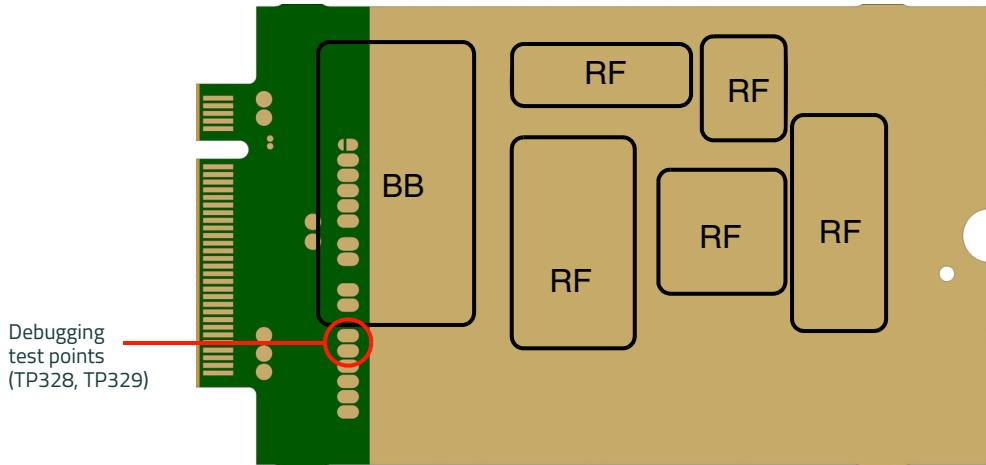
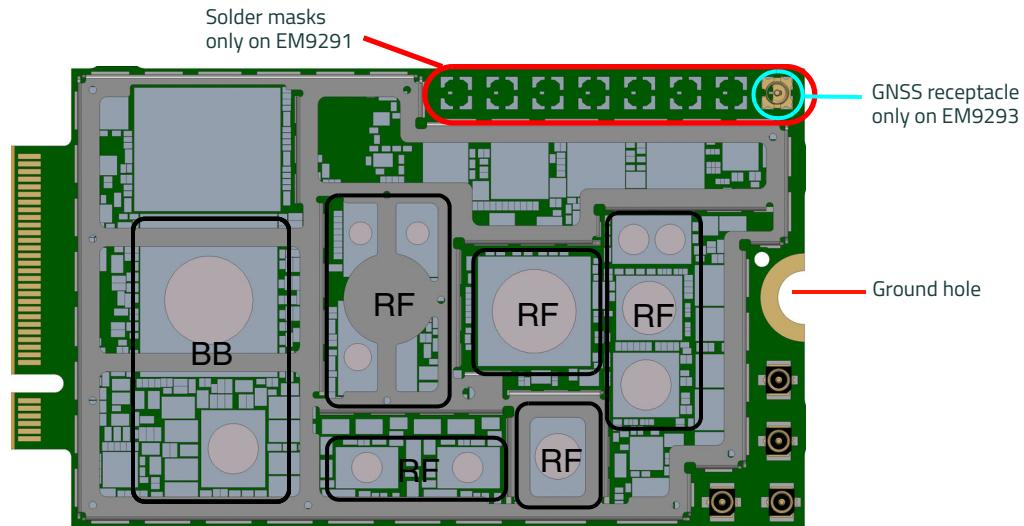

Figure 6-6: Regions requiring thermal dissipation (Bottom view)
Figure 6-7: Regions requiring thermal dissipation (Top View)
Sierra Wireless recommends that the host device dissipate heat from the bottom surface of the module PCB and, if desired, from the top surface of the module shield. Figure 6-6 and Figure 6-7 display the locations of significant heat sources (BB—baseband components, RF—RF components) that require heat dissipation.
**Note**—Sierra Wireless recommends that the debugging test points (TP328 and TP329, see Figure 6-6) remain accessible for Sierra Wireless to assist in system debugging. Make sure the test points are not shorted to anything.
- Monitor temperature at all shield locations. Attach thermocouples to the areas indicated in Figure 6-7 on page 71 (RF, Baseband).